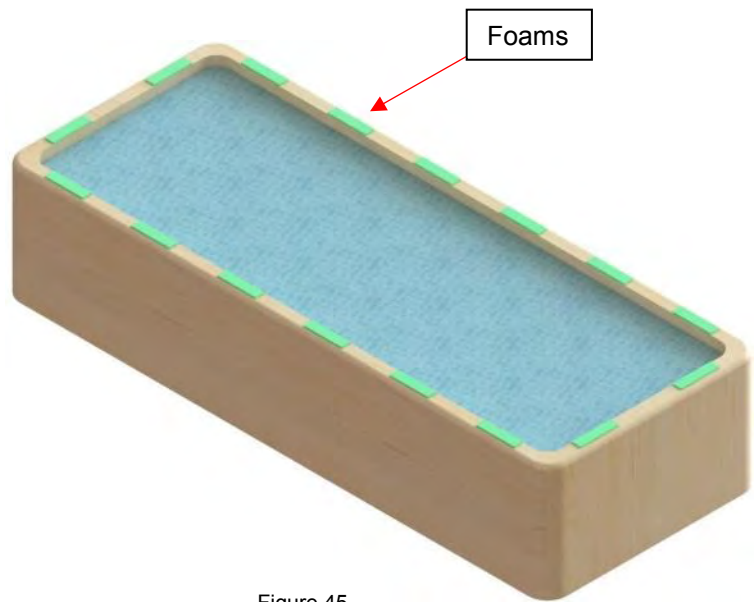

Figure 45
- 1) Attach the foam spacers to the top of the swim spa near each corner using the masking tape provided in the seal bag. There must be at least four foam spacers on each long side. Do not stack two pieces of foam high (Figure 45).